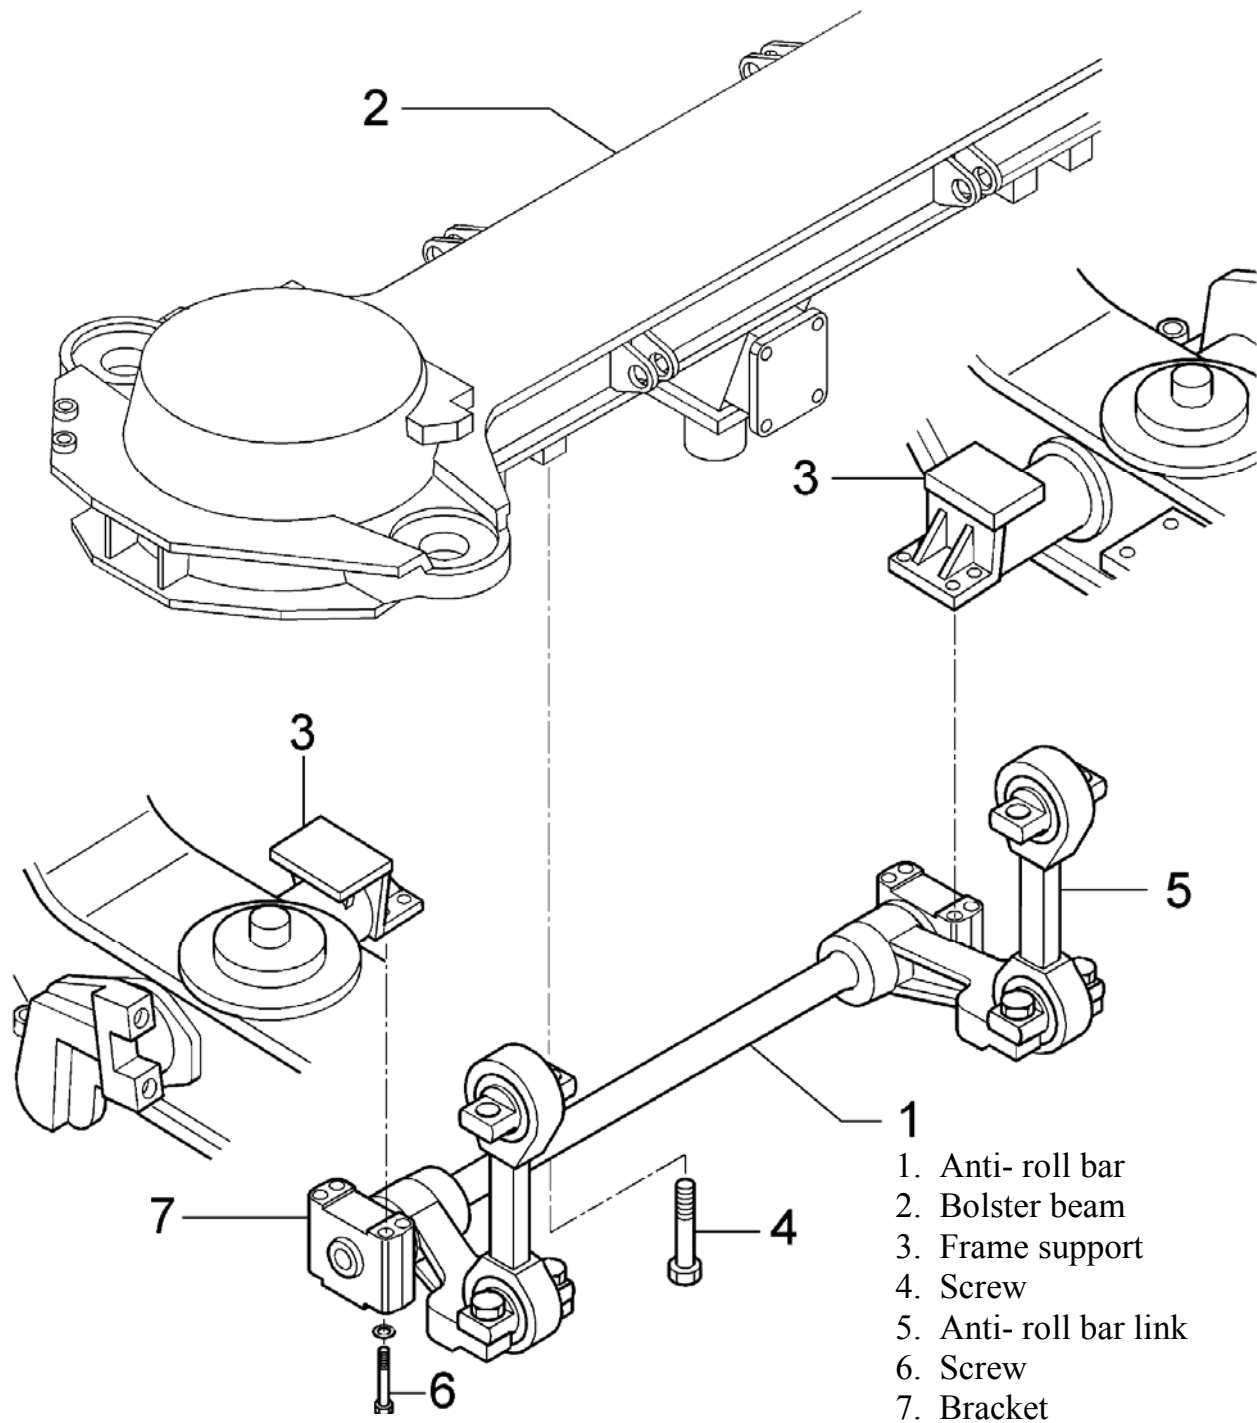

FIG. 4.24 REMOVAL OF THE ANTI- ROLL BAR
The anti-roll bar (1 - FIG. 4.24) must be disconnected both from the bolster beam (2) and from the frame supports (3) in order to allow removal. Extract the screws (4) which link the anti-roll bar links (5) to the bolster beam, then extract those (6) fixing the brackets (7) to the frame supports (3). It is then possible to remove the complete anti-roll bar (1).